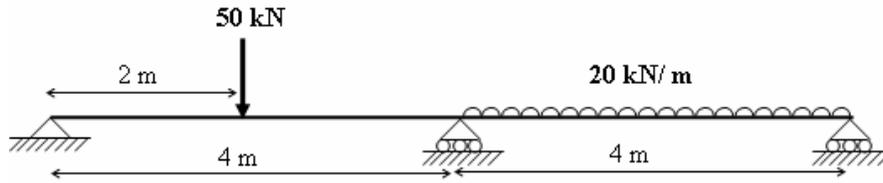

Fig.4
5. Using flexibility method, analyze the continuous beam shown in Fig.4. [16]